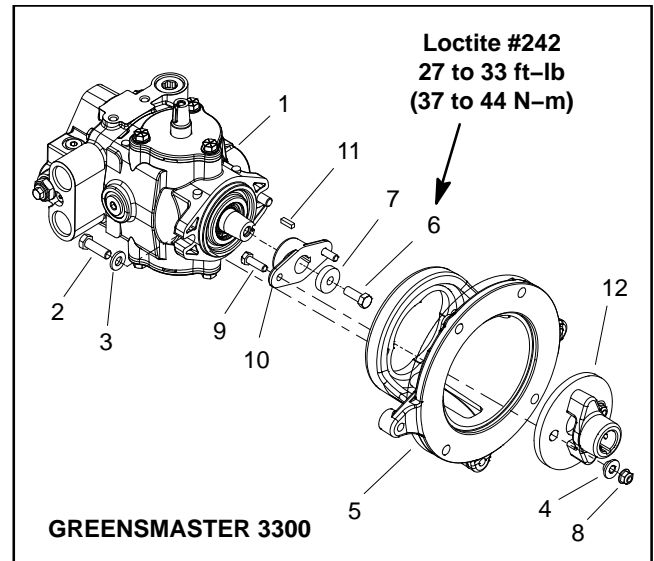
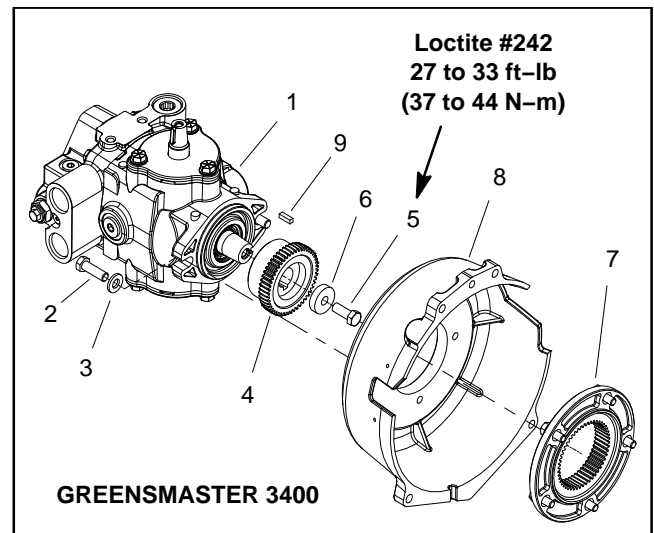

Figure 45
Figure 46
2. Disconnect the traction control cable ball joint (item 20) from the pump lever. Loosen traction control cable jam nuts that secure traction control cable to the cable support. Position cable away from the pump assembly.
3. On machines with gasoline engine, remove two (2) cap screws, coupling spacers and flange nuts that secure pump hub to rubber coupling (Fig. 45).
6. Clamp pump suction hose (item 9) to prevent draining the hydraulic reservoir.
10. Remove two (2) cap screws (item 23) and flat washers (item 24) that secure pump assembly to pump mount. Separate pump assembly from the pump mount and remove pump from machine.
11. If necessary, remove pump hub (Greensmaster 3300 machines shown in Figure 45) or coupling (Greensmaster 3400 shown in Figure 46). Locate and retrieve key from pump shaft.
3. If removed, secure pump hub (Greensmaster 3300 machines shown in Figure 45) or coupling (Greensmaster 3400 machines shown in Figure 46) to piston pump shaft:
4. On Greensmaster 3300 machines, secure pump hub to rubber coupling with two (2) cap screws, coupling spacers and flange nuts (Fig. 45).
7. Position pump assembly to pump mount and secure with two (2) cap screws (item 23) and flat washers (item 24).
A. Secure cable ball joint to neutral arm with cap screw (item 21) and flange nut (item 22).
11. Remove clamp from gear pump suction hose (item 9).